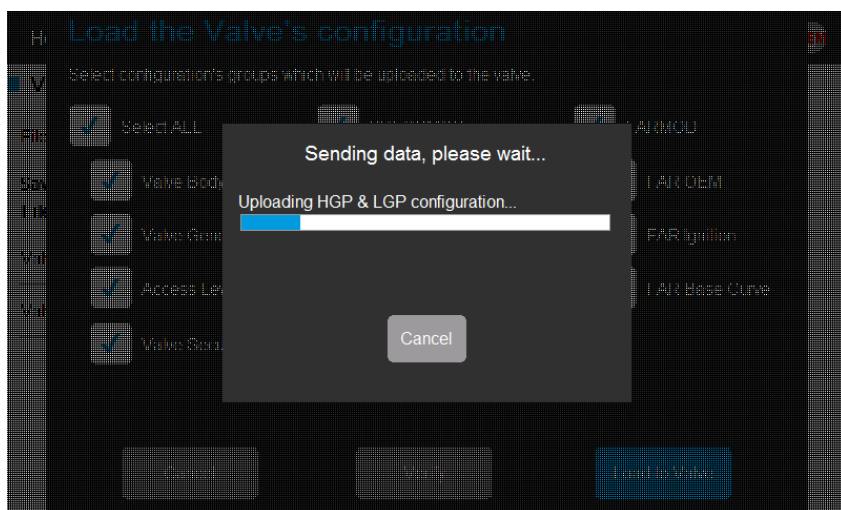

Fig. 119: Load valve configuration progress bar.
8. Select the 'Load to Valve' button. As the user interface is sending the selected configuration to the valve, the progress bar pops up to show download progress. Refer to Fig. 119.